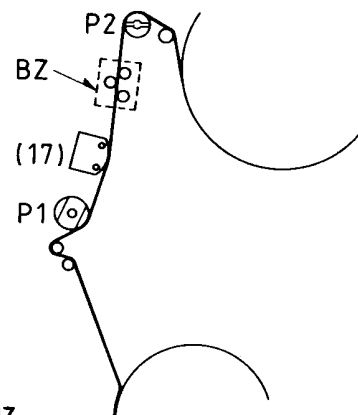

Fig. 17
- After about 20 seconds apply the back tension meter "BZ" as shown in Fig. 17.